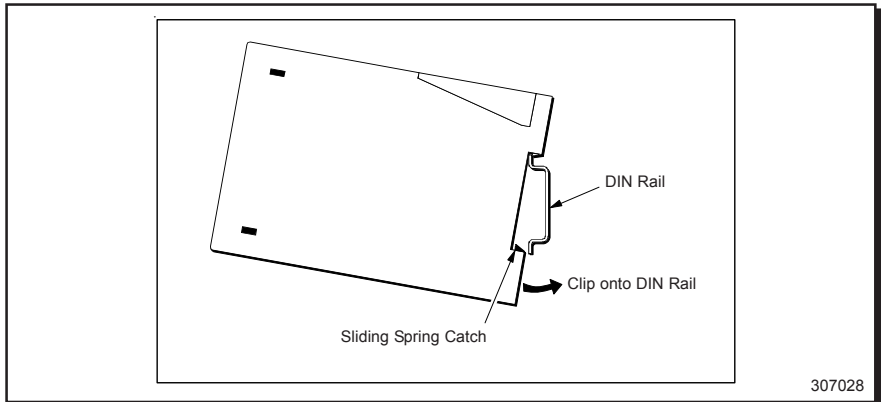

Fig. 28 - Mounting a SN-W/E Interface Unit to a Standard DIN Rail
- Rest the uppermost groove on the rear of the interface unit onto the top lip of the DIN rail (see Fig. 28).